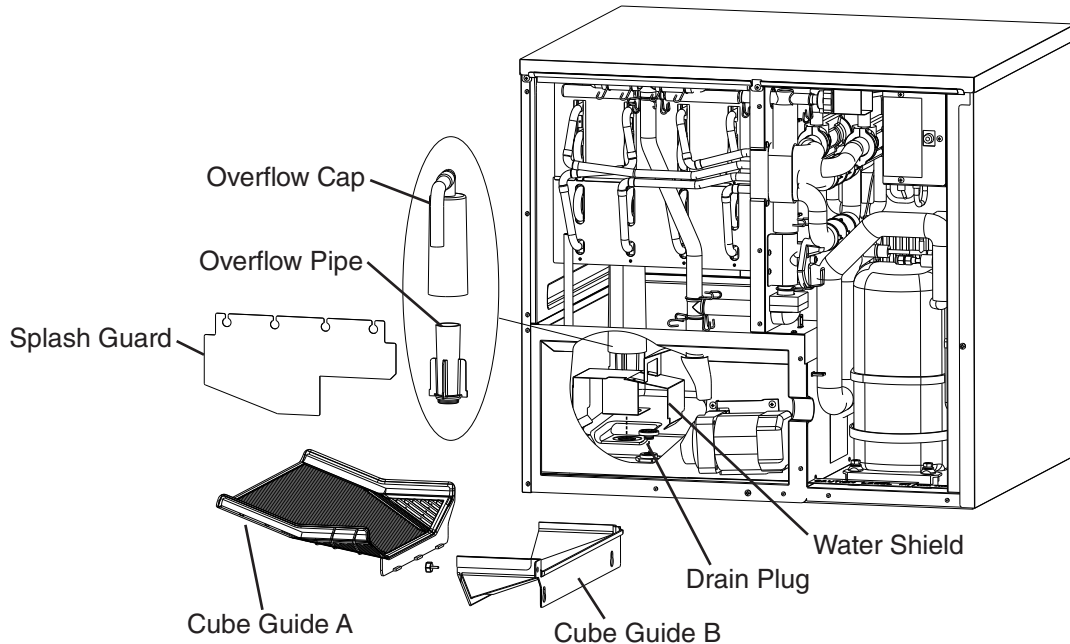

Fig. 6
- 3) Remove the insulation panel. Remove splash guard, cube guide B, then remove cube guide A. Remove the overflow cap, overflow pipe, and water shield. See Fig. 6.